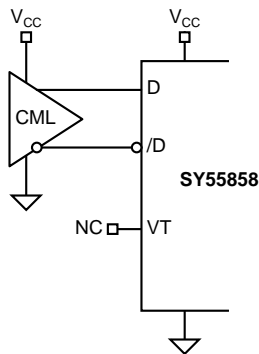

**Figure 3. 50Ω Output Termination**
**Note 4.**  $V_{OUT(SWING)}$  is defined as the swing on one output of a differential pair, that is  $|V_{OH} - V_{OL}|$  on one pin. The swing for common mode immunity purposes is  $2 \times V_{OUT(SWING)}$ . Actual voltage levels and differential swing will depend on customer termination scheme. Typically, a 400mV swing is available in the 50 $\Omega$  environment. Refer to the "CML Output Termination Application" section, Figures 3 and 4, for more details.
**AC ELECTRICAL CHARACTERISTICS** $V_{CC} = 2.3V$  to  $3.6V$ ;  $GND = 0V$ ;  $T_A = -40^{\circ}C$  to  $+85^{\circ}C$ (5)
**Note 5.** Tested using environment of Figure 3, 50 $\Omega$  equivalent load. AC parameters are guaranteed by design and characterization.
50Ω differential drivers as shown in **Figure 3**.